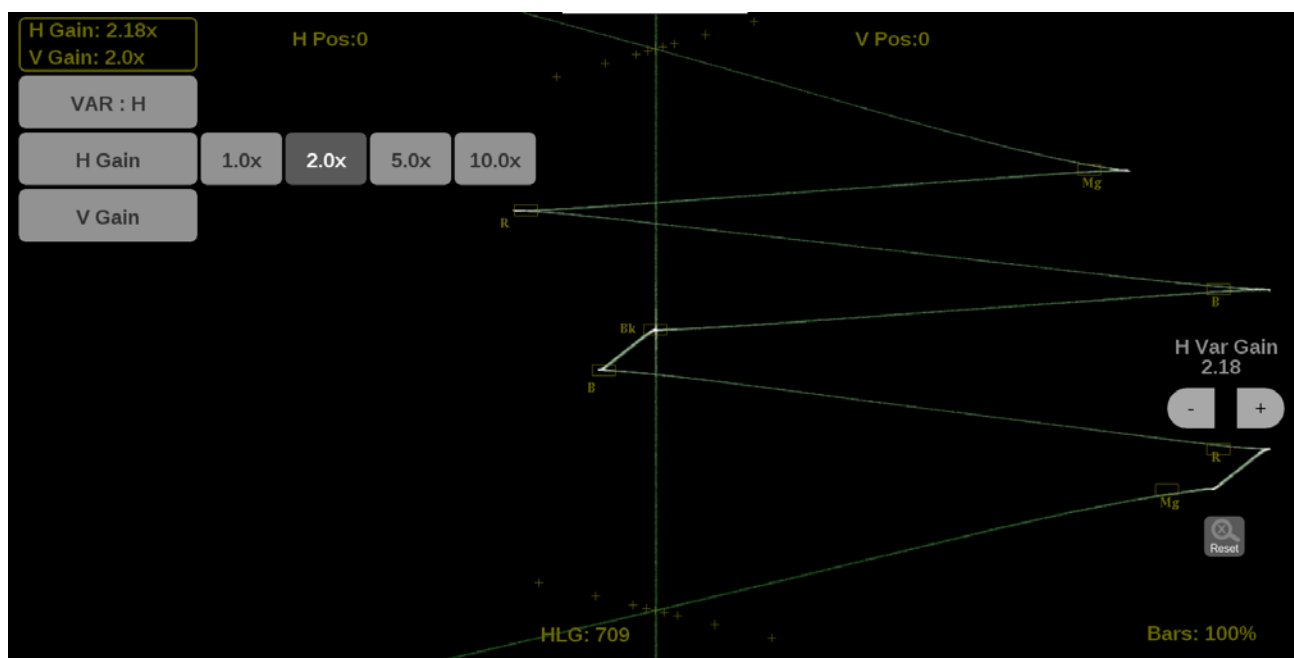

Figure 109: Lightning on-screen tools – horizontal gain
1. Touch the button in the top left corner to expand the available options drop down list. (See Figure 109.)